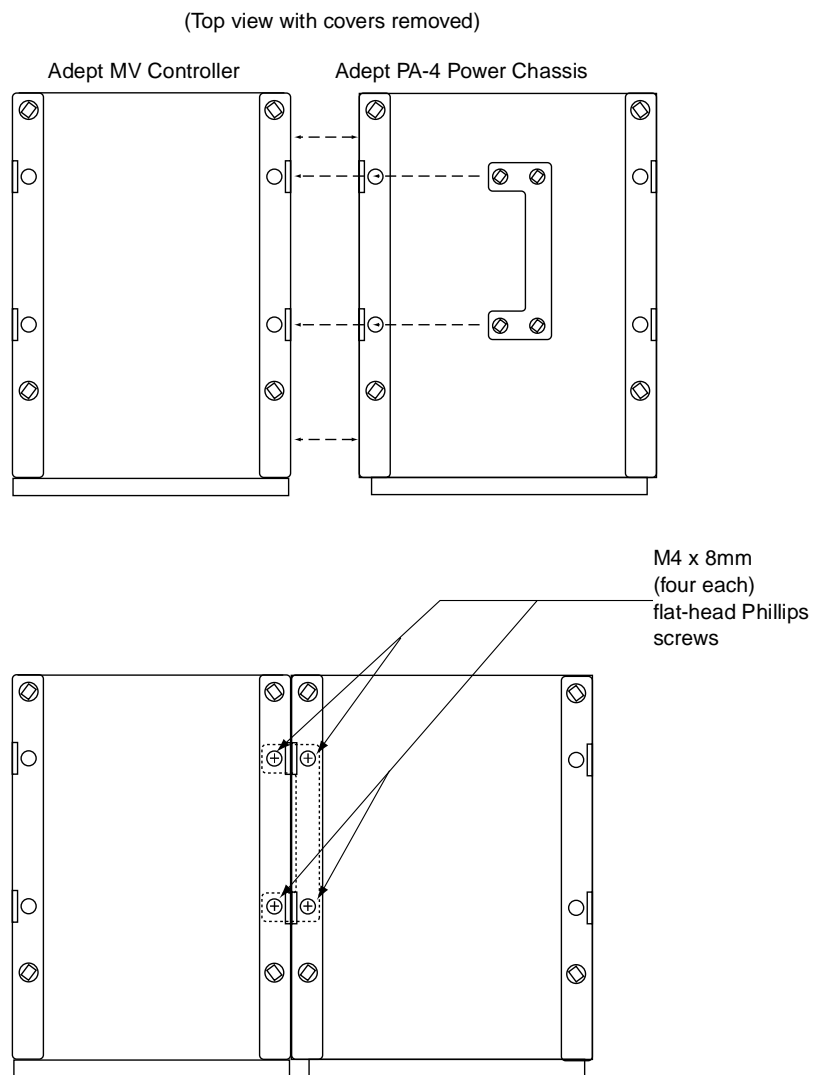

Figure 4-4. Joining the Power Chassis and Controller at the Top
1. Turn off power to each unit and disconnect the power cord. Place the two units next to each other. Remove the top cover from both (see Figure 4-4).